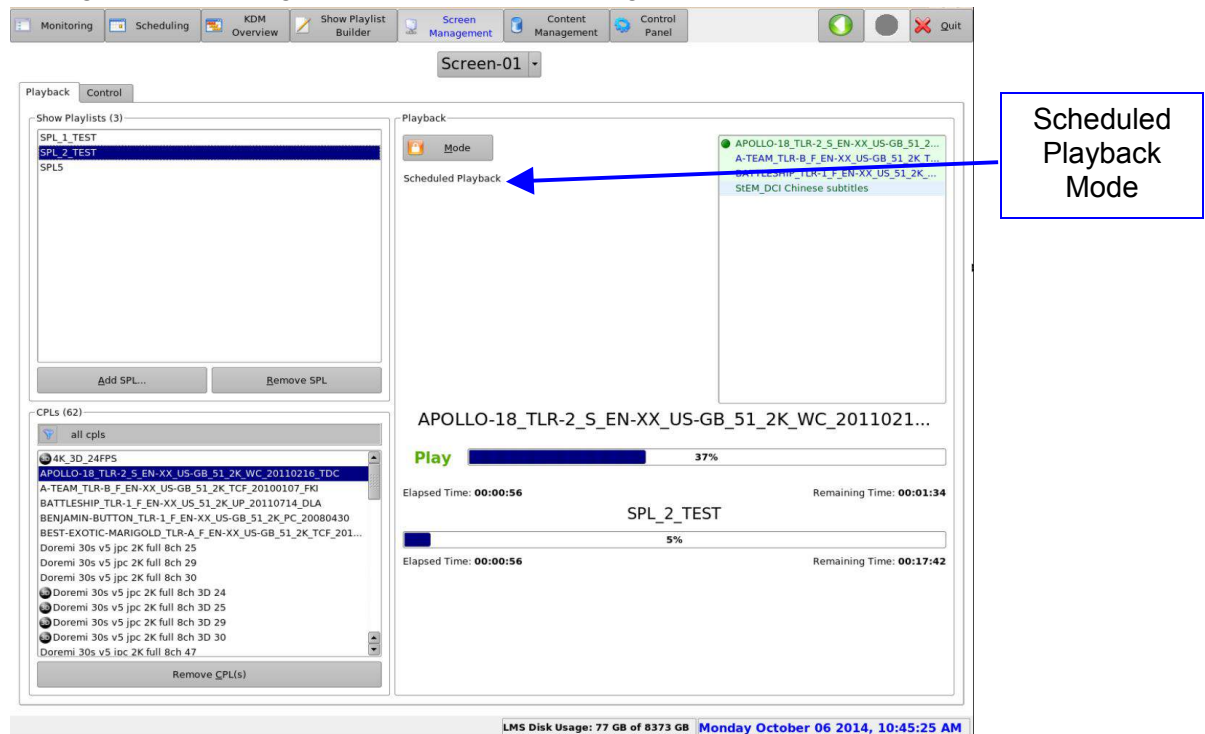

Figure 79: Screen Management Tab – Scheduled Playback Mode
- The following Screen Management tab will appear (Figure 79):